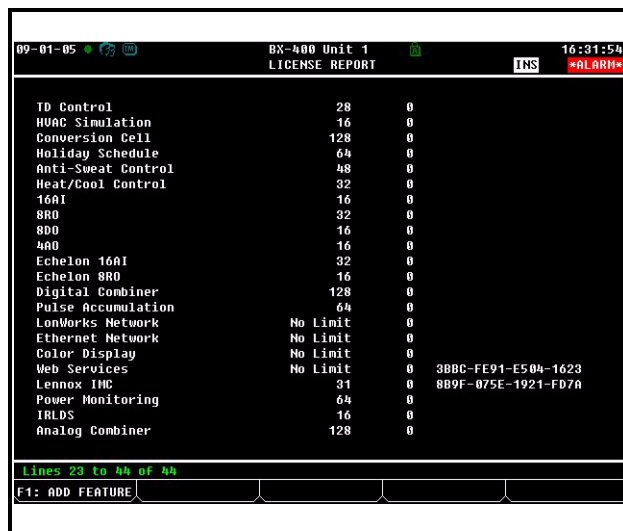

Figure 10-35 - License Report Screen (BX-400 version shown)
4. Reboot the controller and open the License Report screen again to see the license key appear next to the activated feature (**Figure 10-35**):